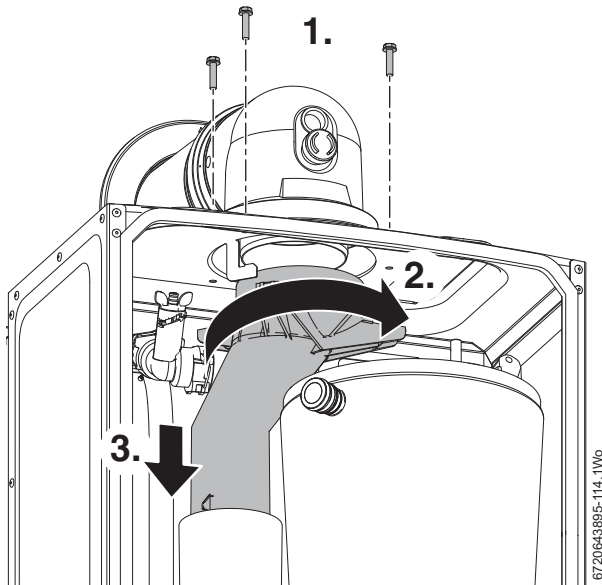

Fig. 85 Upper exhaust assembly
1. Refer to figure 85 and re move the three screws securing the turret to the top of the appliance.